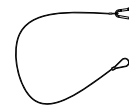

Figure 13
1. Wire rope is necessary for the 100w/150w luminaire. (figure 13).